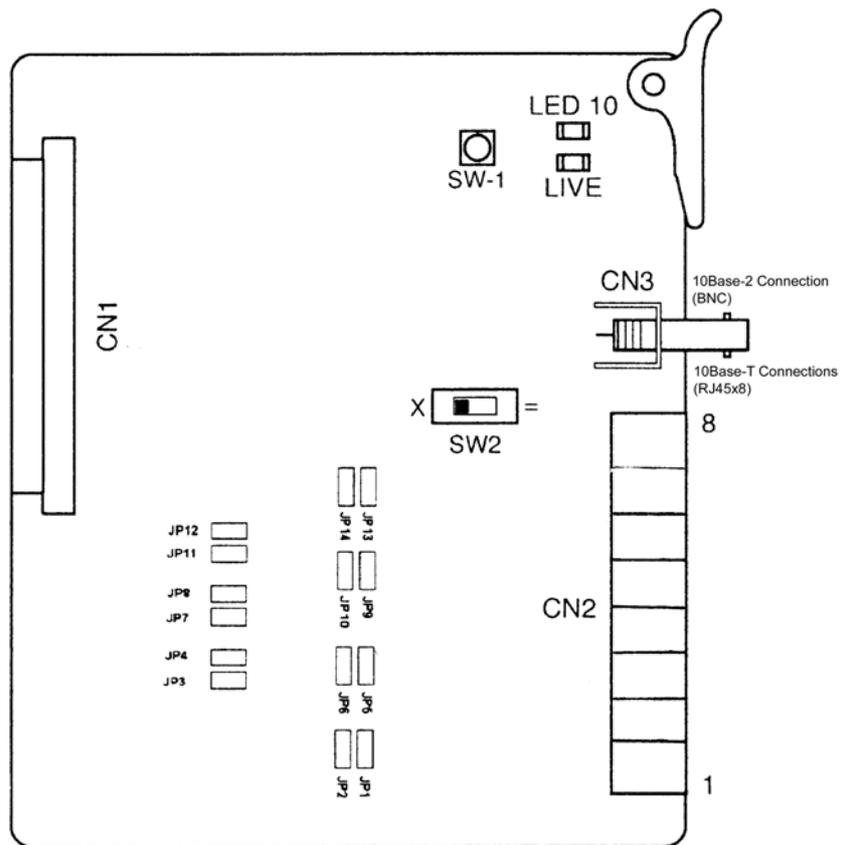

Figure 5-29 VDH2(8)-U13 ETU
- ⓘ Port 8 is unique in that the station abilities cannot be separated by changing a jumper setting like ports 1~7. Port 8 is to be used for cascading HUBs. Connect Port 8 either to another VDH2(8)-U13 (Port 1~7) or an external HUB. In this case be sure to set SW2 on the VDH2(8)-U13 to '='. If SW2 is set to 'X', then Port 8 is used as a regular Telamux connection. See *Figure 5-29 VDH2(8)-U13 ETU*.
- ④ In these cases the port 8 is still used for core line. The 10Base-2 cable interconnecting VDH2(8)-U13 ETUs must be greater than 0.5 meters. Care should be taken so the 10Base-2 cables are neatly coiled. When the 10Base-2 cables are connected to the VDH2(8)-U13 BNC connector, a terminating plug must be used if this is the last device on the cable. Refer to *Figure 5-29 VDH2(8)-U13 ETU.*
- ④ Using the 10Base-T cables is the preferred method of cascading VDH2(8)-U13 ETU hubs since it does not reduce the quantity of station ports that the ETU can provide.
Figure 5-29 VDH2(8)-U13 ETU shows cable connections to the LAN using 10Base-2 cabling. Use an EIA/TIA category 3 (or higher) unshielded twisted pair cable. **Do not use 10Base-2 cable for overhead wiring or for outdoor wiring.**